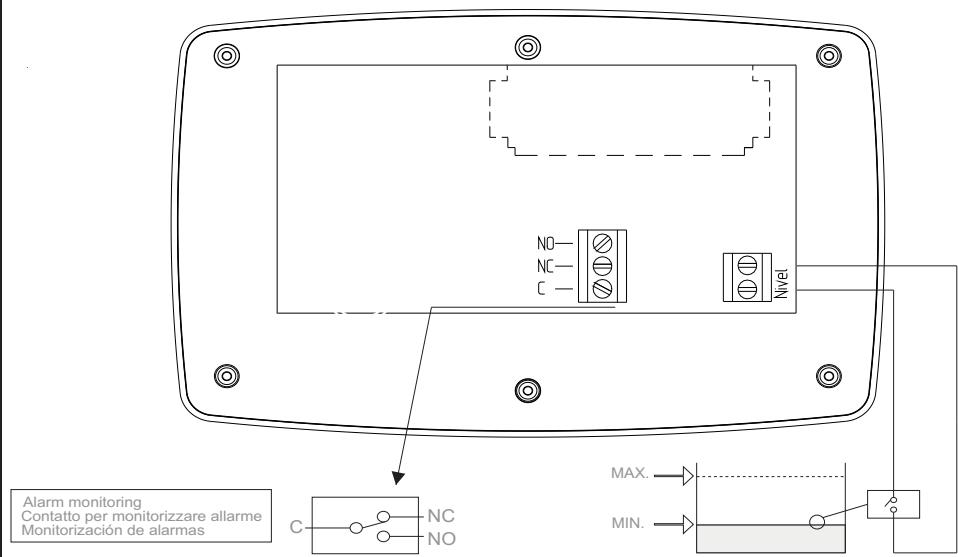

Fig. 4
- Alarm monitoring: the **SPEEDMATIC ALT** has a volt-free contact with 1 A of maximum intensity for the transmission of different types of signal (optical, acoustics, etc) when detects some failure that previously has been displayed in the LCD screen. For its connection to see Fig. 4.
- Min. level control: there is an input for the stop of all the pumps as soon as is disconnected the external switch of minimum level. See Fig. 4.